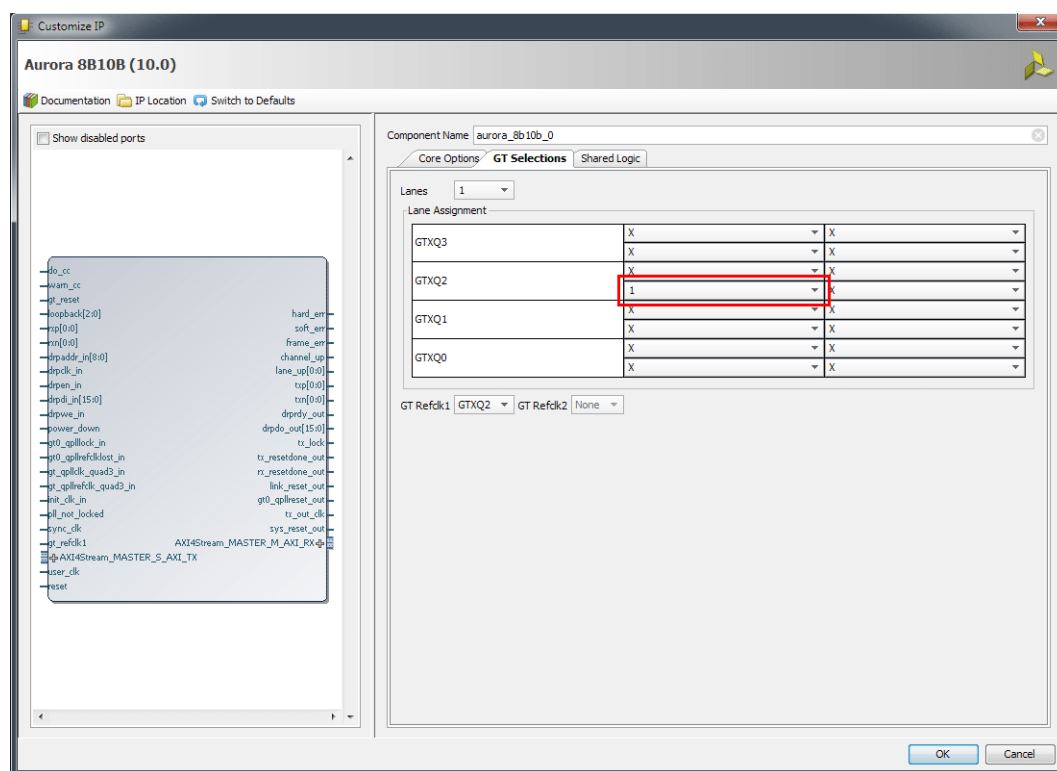

Figure 5: Aurora 8B10B Single Lane GT Selections
15. Change the lower list box setting for GTXQ2 from X to 1 (Figure 5) and click **OK**.